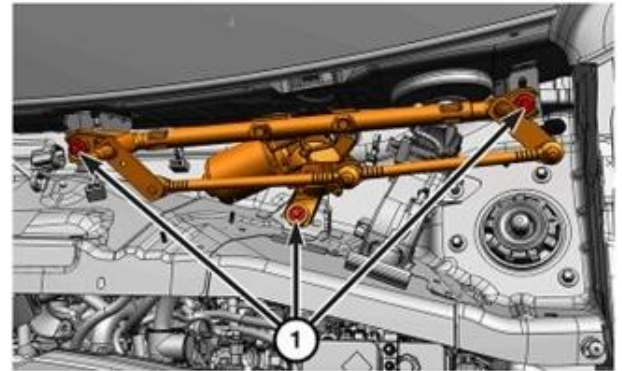

Figure 30 – Wiper Linkage Assembly
- j) Remove the fasteners (1) that secure the front wiper linkage module to the cowl plenum (Figure 30).
- e. Wiper Linkage Module Bolts (1) tighten to 5 N·m (44 In. Lbs.) (Figure 30).